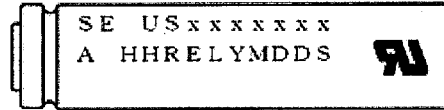

Fig.1
5.2 Trade Mark (Fig.1 : USxxxxxxx) 登録機種名 (Fig.1 : USxxxxxxx)
5.3 Plant (Fig.1 : A for plant code) 製造所 (Fig.1 右記図 : A)
5.4 Specification (Fig.1. : HH for Cell Type) 仕様 (Fig.1 : HH)
5.5 Lot Number (Fig.1 : YMDDS for Manufacturing Date of Cells)
ロット、セル製造年月日 (Fig.1 : YMDDS)
Lot Number (Fig.1 : YMDDS for Manufacturing Date of Cells)
5.6 UL Marking U L マーク (Fig.1 : Recognition Mark)